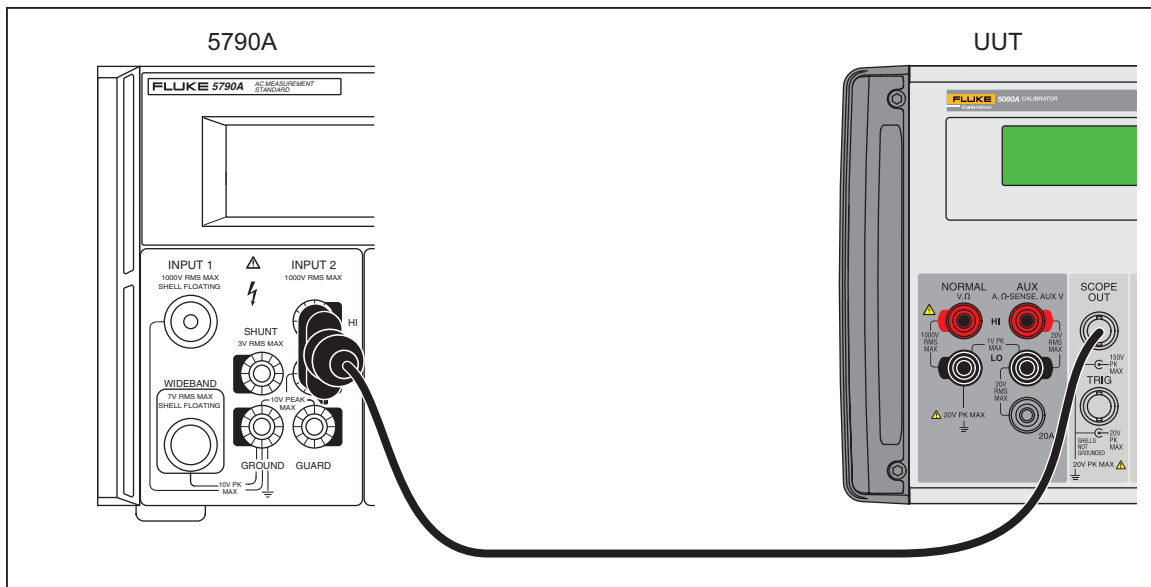

Figure 15. Calibrator Mainframe to 5790A AC Measurement Standard Connections
- Use the BNC cable, double-banana adapter, and the 50 Ω feed-through termination to connect the scope out connector of the Calibrator to the HP 5790A as shown in Figure 15.